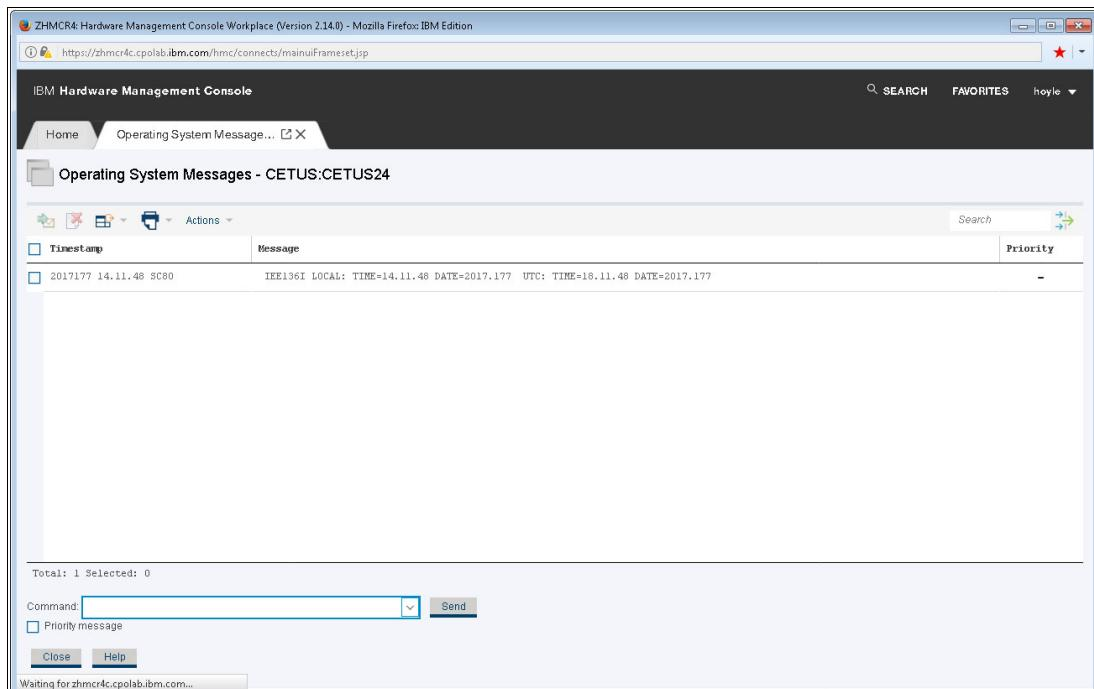

Figure 13-13 Operating System Messages command interface
4. Commands and displays can be entered in the Command box (Figure 13-13).